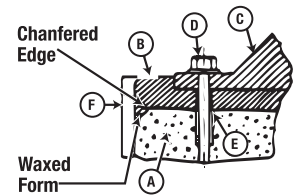

Figure 1 — Regular Equipment
3. Chamfer the edge of the concrete 45 degrees to about a 2" (51mm) width. (See Figure 1 on page 5).